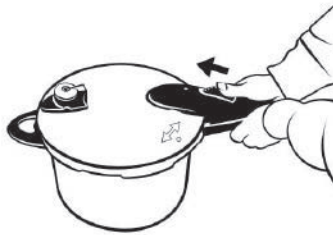

Figure 14
(2) When pressure indicator is down in the normal position, gently shake the cooker and turn the valve to the steam release position to release any remaining steam. After all steam is released, the lid can be opened.
- Push the **push plate** towards cover center. See Figure 14.